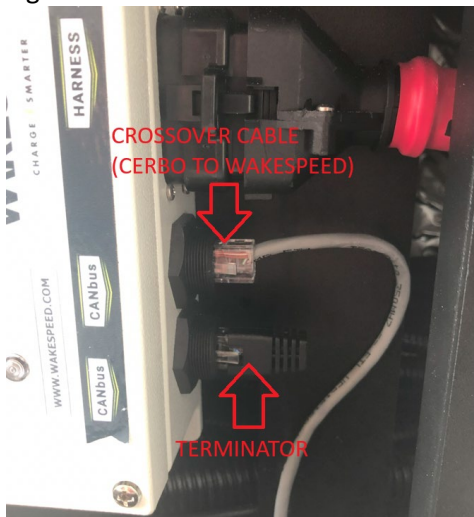

Figure 9
14. Plug the crossover cable into the top CANbus port and the terminator into bottom CANbus port as shown in Figure 9.